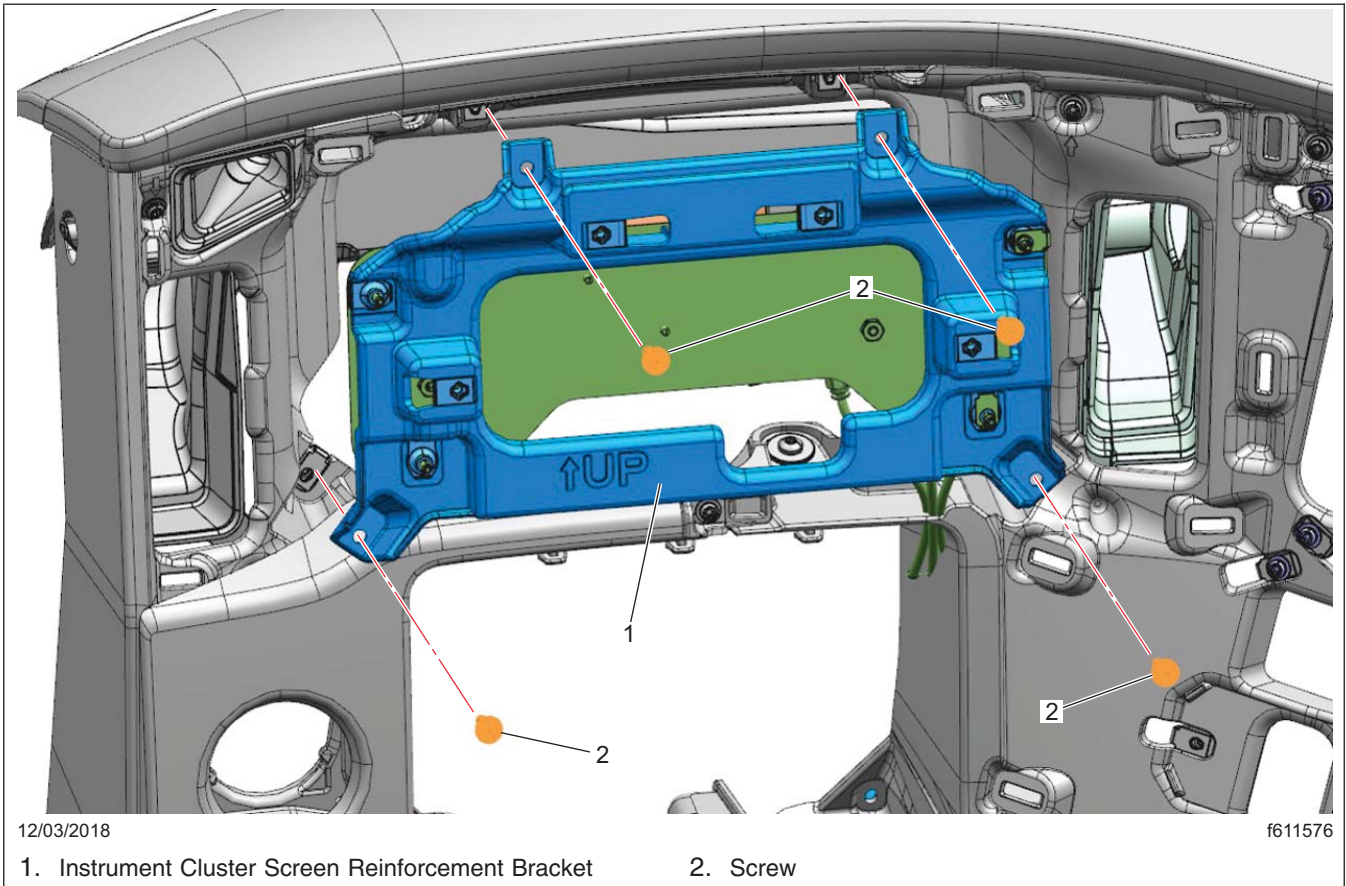

Fig. 7, Instrument Cluster Screen Reinforcement Bracket Removal
- 5.7 Remove the instrument cluster screen reinforcement bracket. Disconnect the wiring from the back side as needed. See Fig. 7.
18. Install the instrument cluster screen reinforcement bracket with the TomTom module attached back on the dash. See Fig. 7.